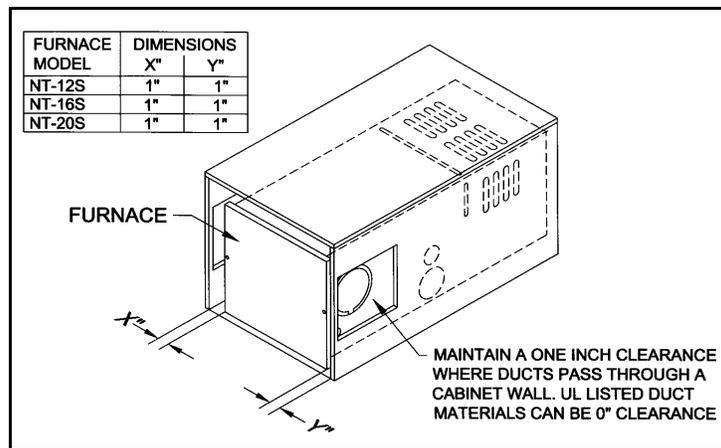

Figure 4A
E. Maintain a minimum of 1" clearance where ducts pass through any combustible construction; such as, coach cabinetry. (See Figure 4A). NOTE: UL listed duct materials can be 0" clearance.